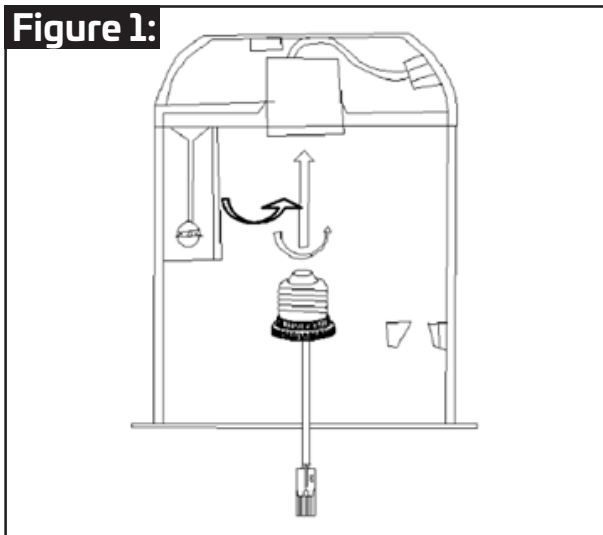

Figure 2:
STEP 3: As shown in Figure 2 - Connect the lamp connector with the lamp base connector